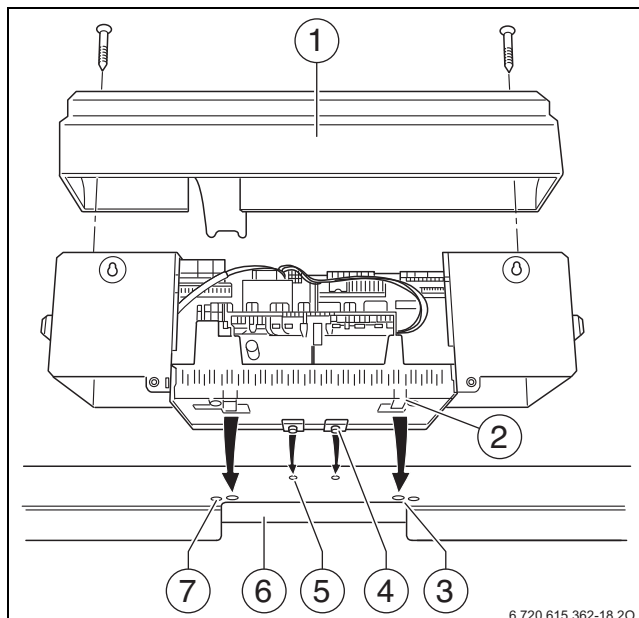

Fig. 24 Control unit
Fig. 24 shows the control unit and the front cover [1] from the back.
**Legend to fig. 24, page 24:**
- ▶ Refit the cover (→ fig. 24, page 24) to the control unit.
- ▶ Fix the control unit cover with the screws supplied (fig. 24, page 24).